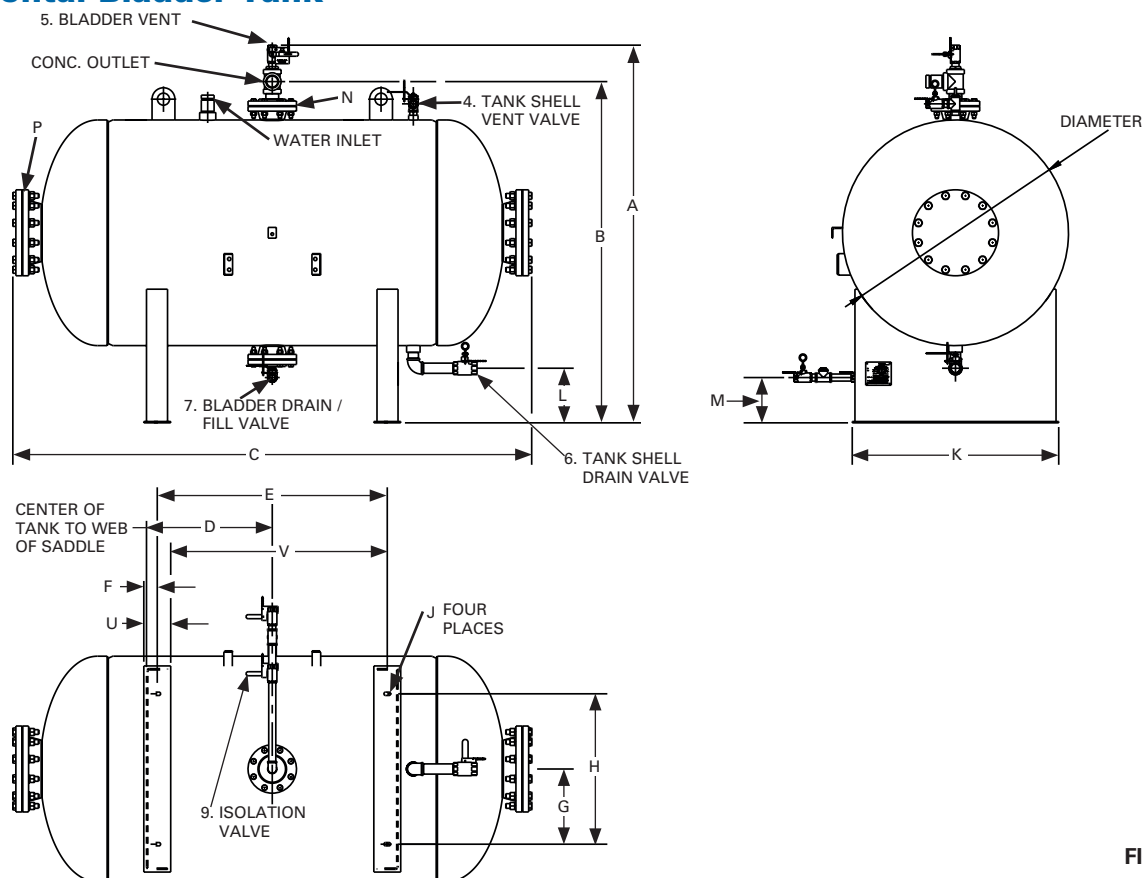

FIGURE 1
* Reference Figure 1 for valve location
Dimension Information (Reference Figure 1)